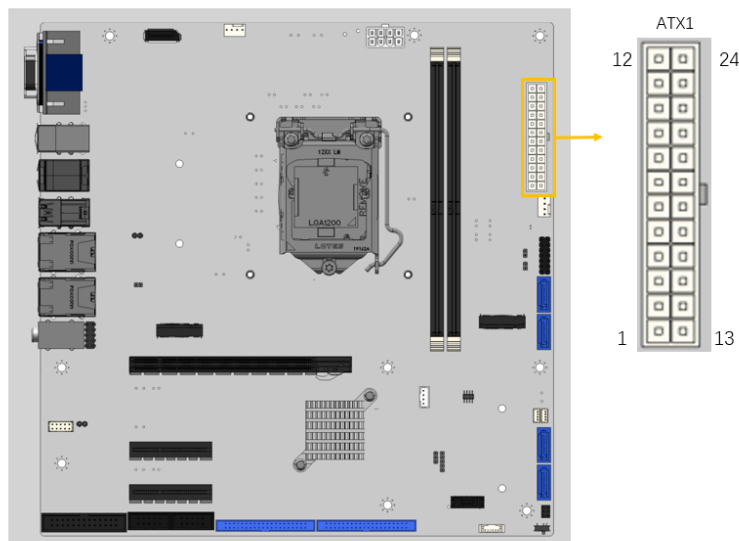

Figure 3-3: ATX Power Connector Location
- CN Location:** See Figure 3-3